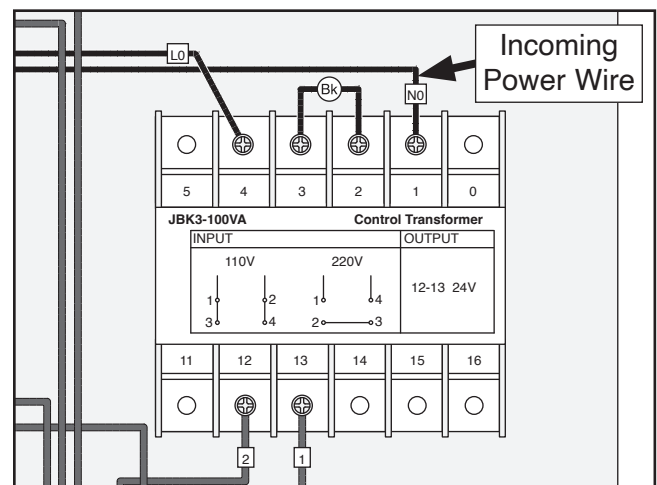

Figure 9. Transformer rewired for 220V.
7. Verify all transformer wire connections match diagram shown in **Figure 9**, then close electrical cabinet.